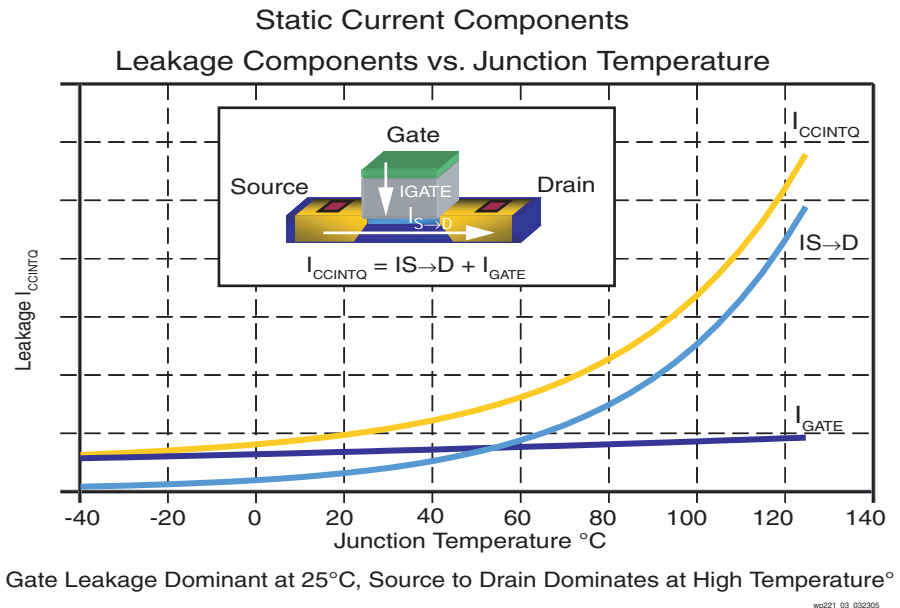

Figure 3: Leakage Current Components versus Temperature for the 90 nm Virtex-4 FPGA
- Source-to-Drain Leakage:** This current flows from source to drain of the transistor, even when the transistor gate is off. When the transistor gets small, it is harder to prevent this current from flowing, and therefore, 90 nm transistors tend to exhibit source-to-drainage leakage with much greater magnitude than larger transistors, all parameters being equal. The other problem is the thickness of the gate oxide. A thinner oxide allows the transistor to be switched on and off faster, but it also increases leakage. The amount of leakage is also influenced by the threshold voltage of the transistor. The threshold voltage, or V_T of the transistor, is the voltage between the gate and the source at which the channel conducts current to a certain extent. Small high-speed transistors need a lower threshold voltage (influenced by oxide thickness and doping) to maintain the speed with which the transistor can be turned on and off via gate control, but this also tends to increase the leakage because the channel of the transistor can not be turned off completely. The goal is to make fast transistors, but unfortunately, physics is against this. Another important note is that source-to-drain leakage increases exponentially with increasing temperature; in going from a junction temperature (T_J) of 25°C to 85°C, it goes up by a factor of 5x (see IS →D, Figure 3, page 5).
- Gate Leakage: This current flows from gate to substrate. This component of leakage is now more substantial as transistor gate oxide thickness has decreased at the 90 nm technology node. At room temperature, the leakage from gate to substrate is larger than the source-to-drain leakage in the 90 nm fast thin oxide transistors; however, unlike source-to-drain leakage, this gate leakage only increases marginally with increased temperature (see I_{GATE} , Figure 3).